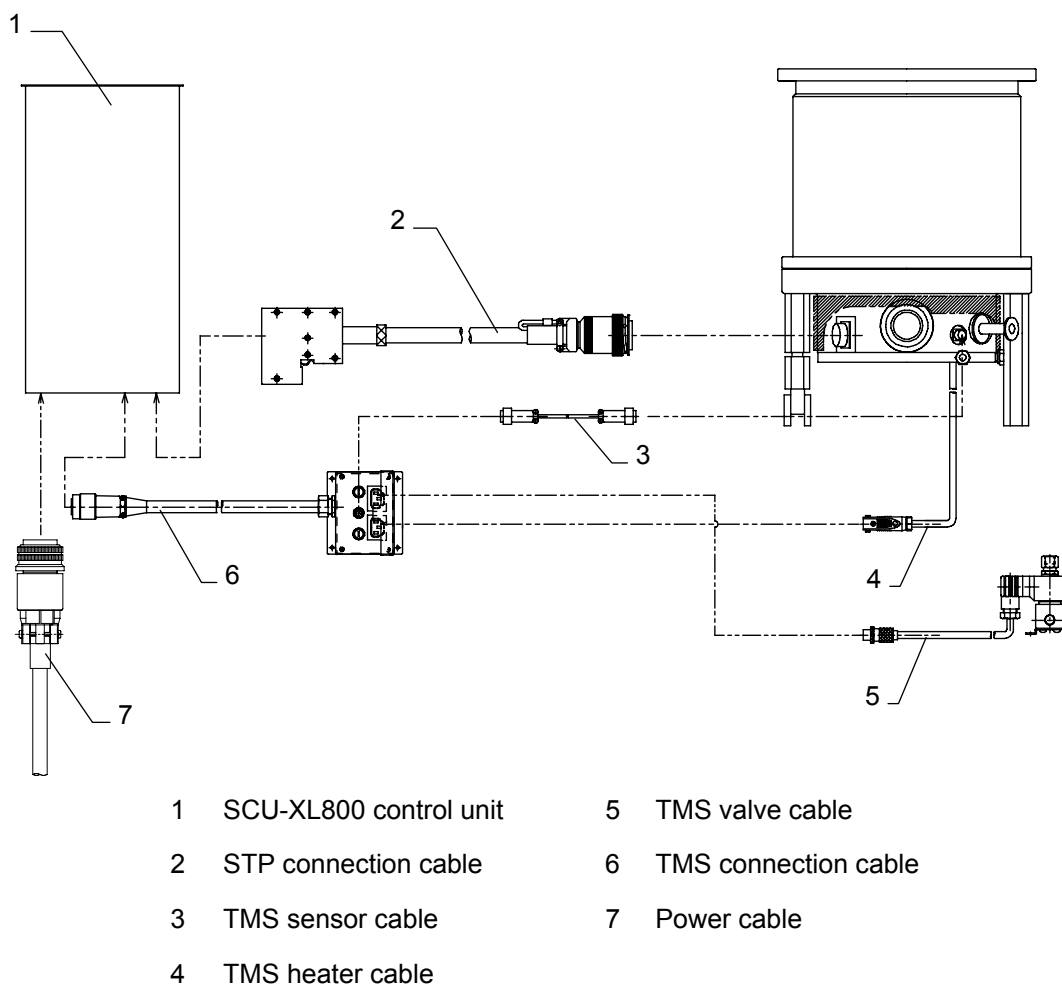

Figure 8 - Configuration of the STP pump with the TMS
*Note: Figure 8 shows a typical TMS system installation. System connections and cables differ according to the type of pump connected to the SCU-XL800. Refer to the STP pump Instruction Manual (A) and (B) for full details of connection cables and system connections.*